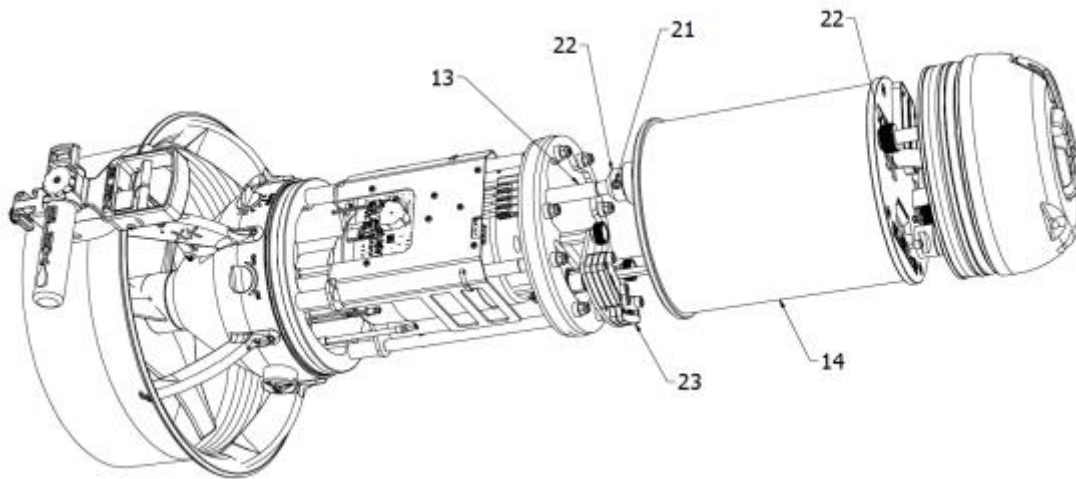

Fig. 8a (view of the scooter without the outer casing)
- Insert the sea ballast (23) in its housing (see Fig. 8a);